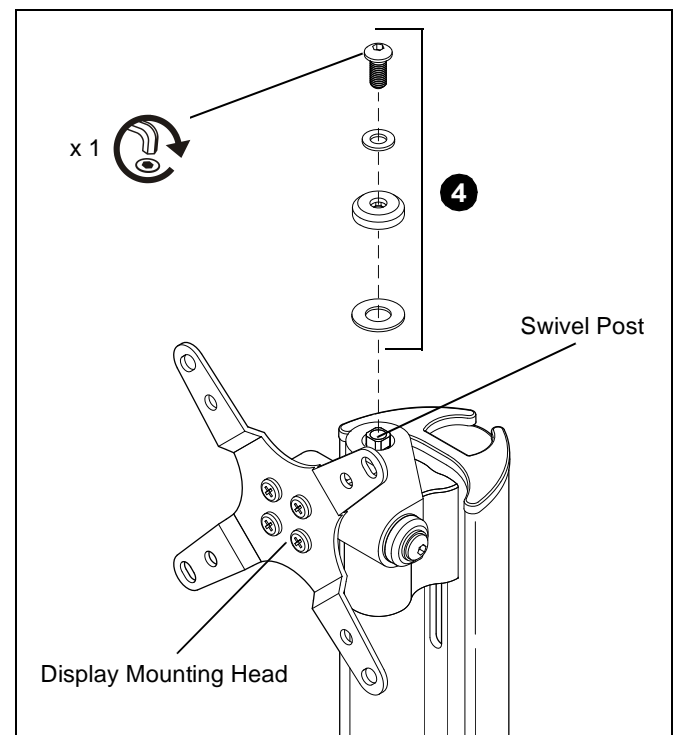

Figure 4
4. Secure display mounting head to swivel post using Phillips pan head screw, flat washer, and two spacers removed during step 1. (See Figure 4)